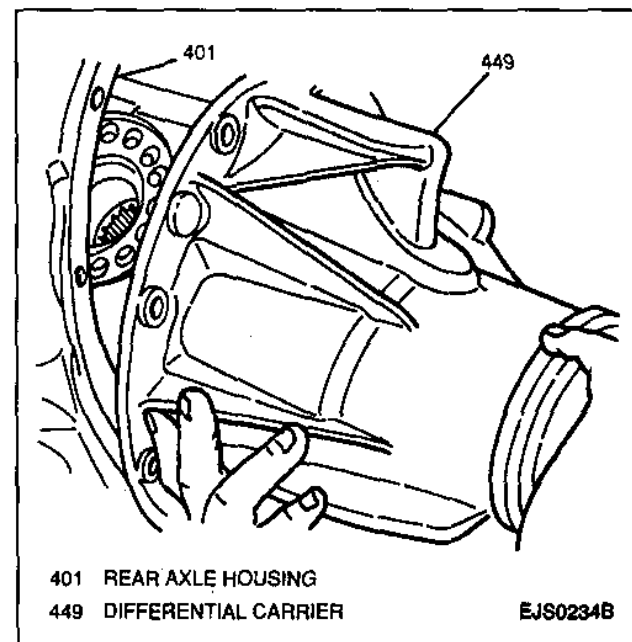

Figure 23—Removing Differential Carrier
14. Eight nuts and differential carrier from rear axle housing (Figure 23).
19. Eight differential carrier nuts and differential carrier from rear axle housing (Figure 23).